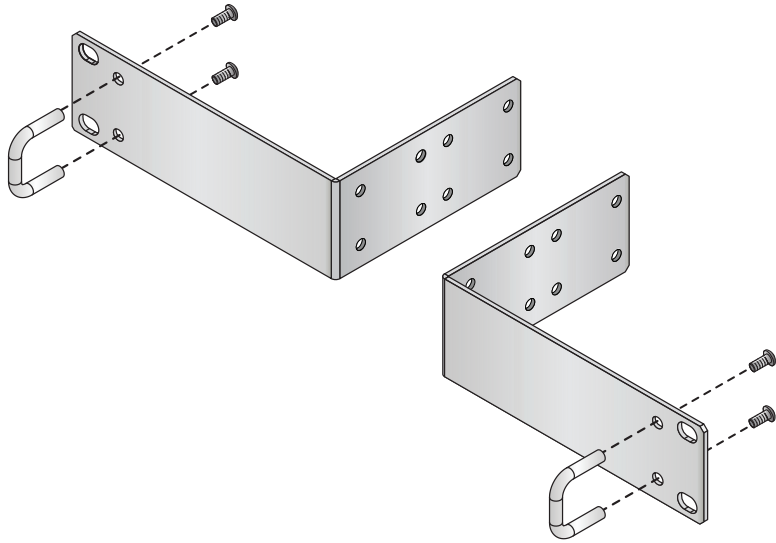

Figure 7. Attaching handles to the brackets
4. Use the four handle screws to screw the handles to the wider side of each bracket, as show in Figure 7.